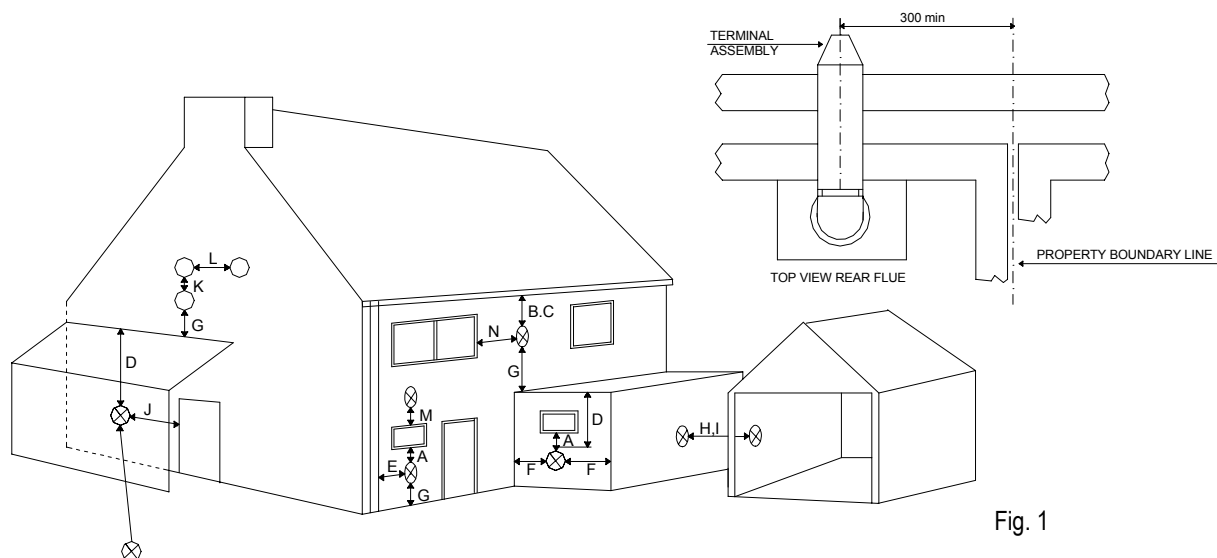

Fig. 1
**IMPORTANT REQUIREMENT:** The correct dimensional relationship between the terminal and any obstruction, openable window or ventilator as shown in Fig 1 pag.7 It is **ESSENTIAL TO ENSURE**, in practice, that products of combustion discharging from the terminal cannot re-enter the building, or any other adjacent building, through ventilators, windows, doors, other sources of natural air infiltration, or forced ventilation/air conditioning systems. If this should occur, the appliance **MUST BE TURNED OFF IMMEDIATELY** and the local gas region consulted.